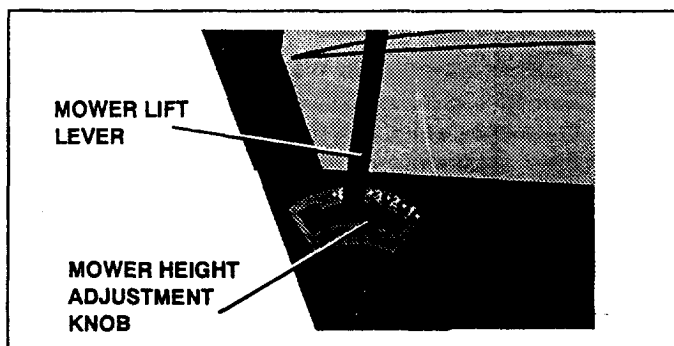
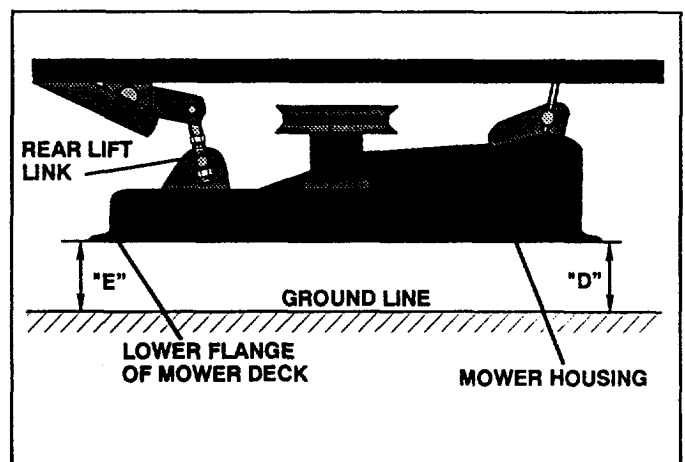

FIG. 23
FIG. 26
TO LEVEL MOWER HOUSING (See Fig. 23 - Fig. 26)
- Place mower height adjustment knob in position "3" (See Fig. 23).